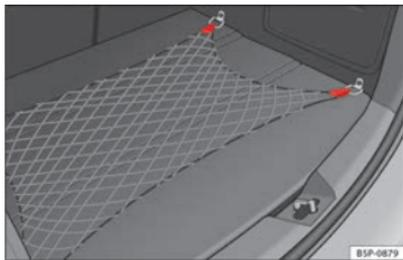

Fig. 101 Luggage compartment net
- Use the fastening rings located on the side of the luggage compartment to attach the storage net ⇒ Fig. 101.